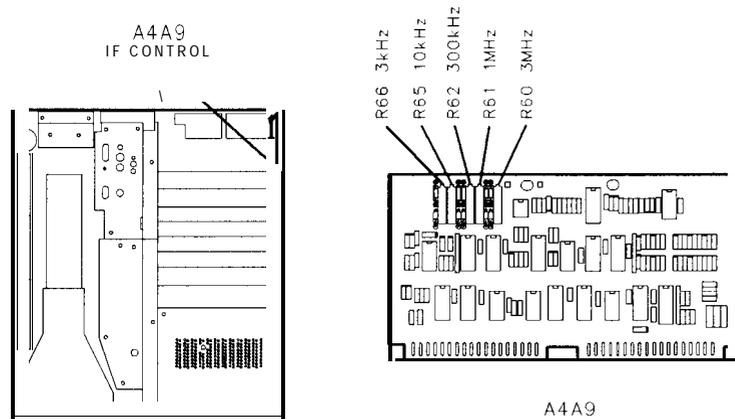

Figure 4-8. Location of Bandwidth Adjustments
6. Press **(PEAK SEARCH)**, **MKR → (CF)**, and **MARKER (Δ)**.
8. Adjust A4A9R60 3 MHz for MKR In] indication of 1.5 MHz while maintaining the marker at 0.430 X using the DATA knob. Refer to Figure 4-8 for the adjustment location.
14. Adjust A4A9R61 1 MHz for MKR A indication of 500 kHz while maintaining the marker at 0.430 X using the DATA knob. Refer to Figure 4-8 for the adjustment location.
20. Adjust A4A9R62 300 kHz for MKR A indication of 150 kHz while maintaining marker at 0.430 X using the data knob. Refer to Figure 4-8 for location of adjustment.
26. Adjust A4A9R65 10 kHz for MKR A indication of 5.00 kHz while maintaining the marker at 0.430 X using the DATA knob. Refer to Figure 4-8 for the adjustment location.
32. Adjust A4A9R66 3 kHz for MKR A indication of 1.5 kHz while maintaining the marker at 0.430 X using the DATA knob. Refer to Figure 4-8 for the adjustment location.